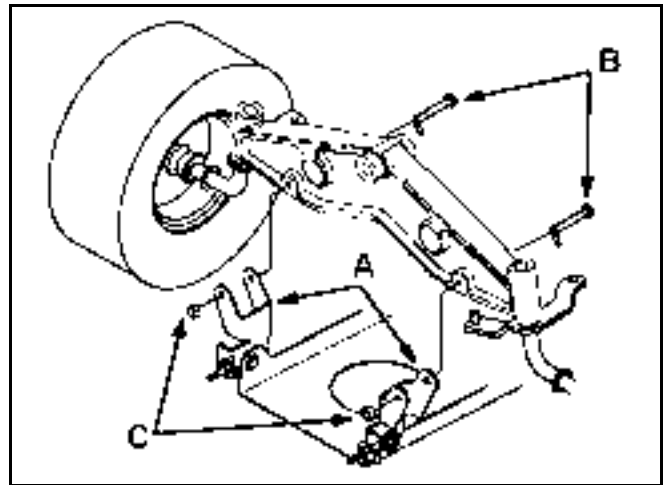

Figure 233
5. Install the mower pivot mount brackets onto the front axle with bolts and lock nuts (Figure 233). Tighten fasteners.